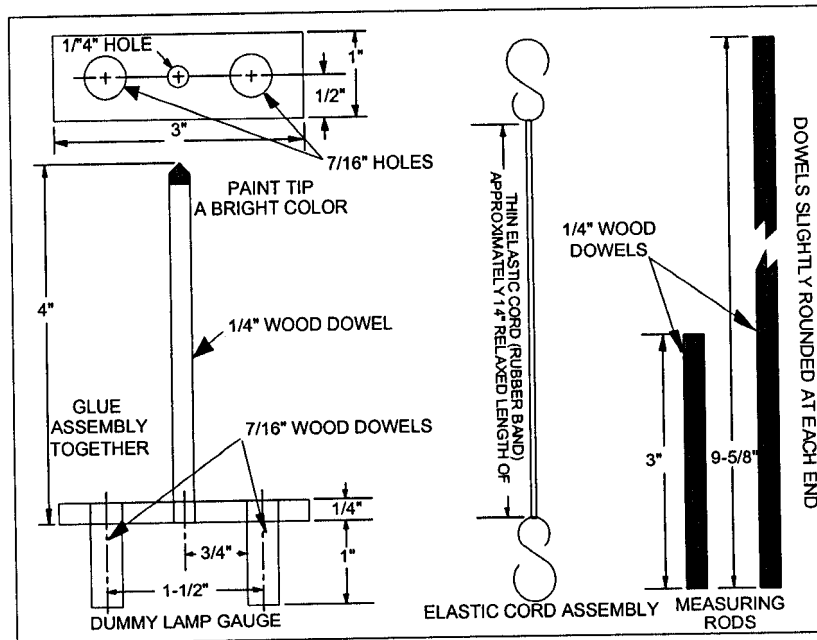

Figure 3-7
- b. Install at least 4 elastic cord assemblies (Figure 3-7) on the clips securing the large glass mirror in the lantern. Use opposite located clips for each cord assembly. The cords should cross at one point (snap to prevent binding). Remove both spherical reflectors from the lampchanger. Rotate the lampchanger turret to obtain access to the rear reflector by raising the trip lever (if in primary position), or rotating to the primary position (if tripped).